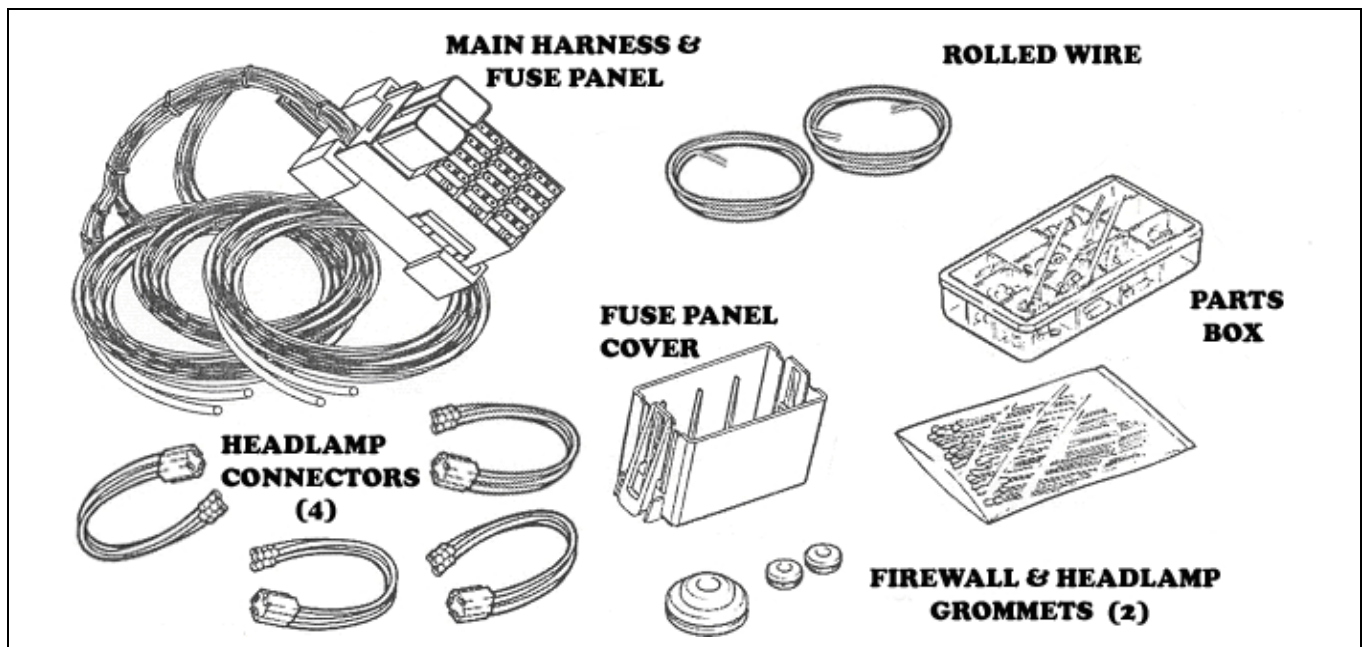

Figure 3-1 Painless Wire Harness Kit
Refer to **Figure 3-1** to take inventory. See that you have everything you're supposed to have in this kit. If anything is missing, contact the dealer where you obtained the kit or Painless Performance at (800) 423-9696. The Painless Wire Harness Kit should contain the following items: